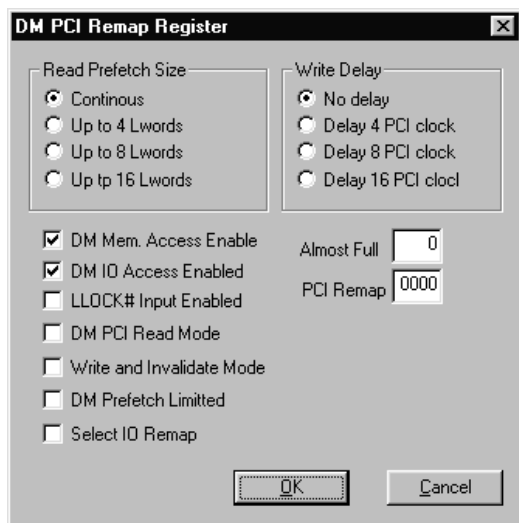

Figure 6-6. Direct Master PCI Remap Dialog Box
The Direct Master (DM) PCI Remap dialog box provides information on the current value of the PCI Base Address (Remap) Register for Direct Master to PCI Memory and allows modification of that value (see Figure 6-6).